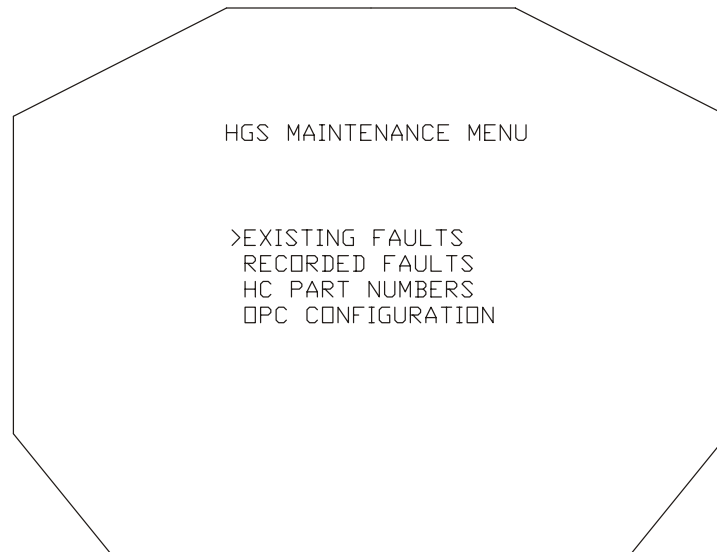

Figure A-2:
3. Record any fault code data for maintenance action. If there are no faults, “TEST” shows on the ACT display line and the HGS TEST MENU (Figure A-2) shows on the Combiner.